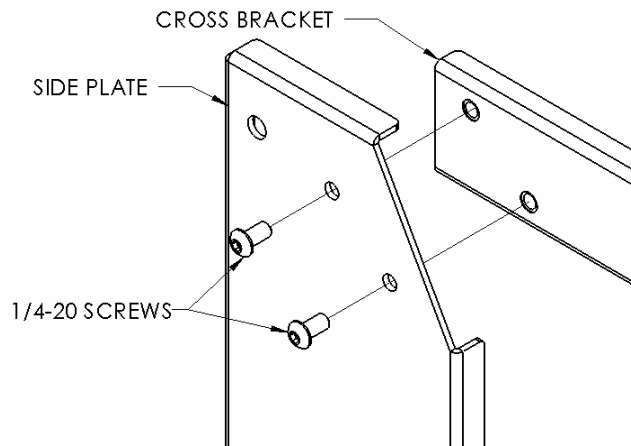

Figure 4
- Using eight 1/4-20 button head cap screws, attach top and bottom to side brackets. For easiest installation do not tighten these screws until after bracket is attached to screen (see Figure 4).